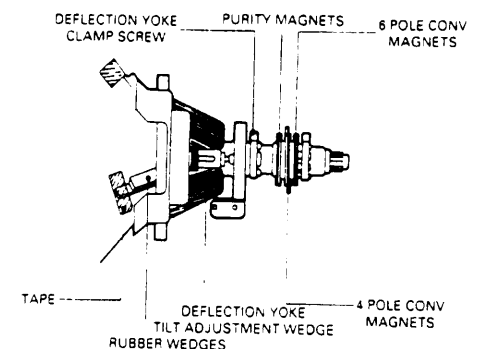

Fig 5.
- Check for correct location of all neck components (see fig. 5).
- Loosen the deflection yoke tilt adjustment wedges (3), loosen the deflection yoke clamp screw and push the deflection yoke as close as possible to the CRT screen.